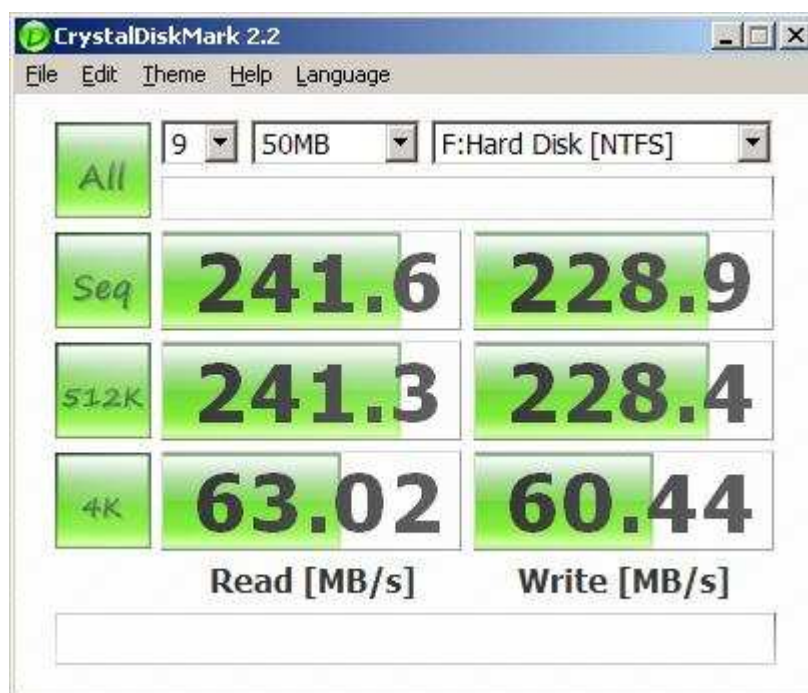

Figure 9 Disk performance test by benchmark
- Now disk can be read/write by file system operation. Figure 9 shows disk speed of SATA-IP comparing with typical SATA disk.